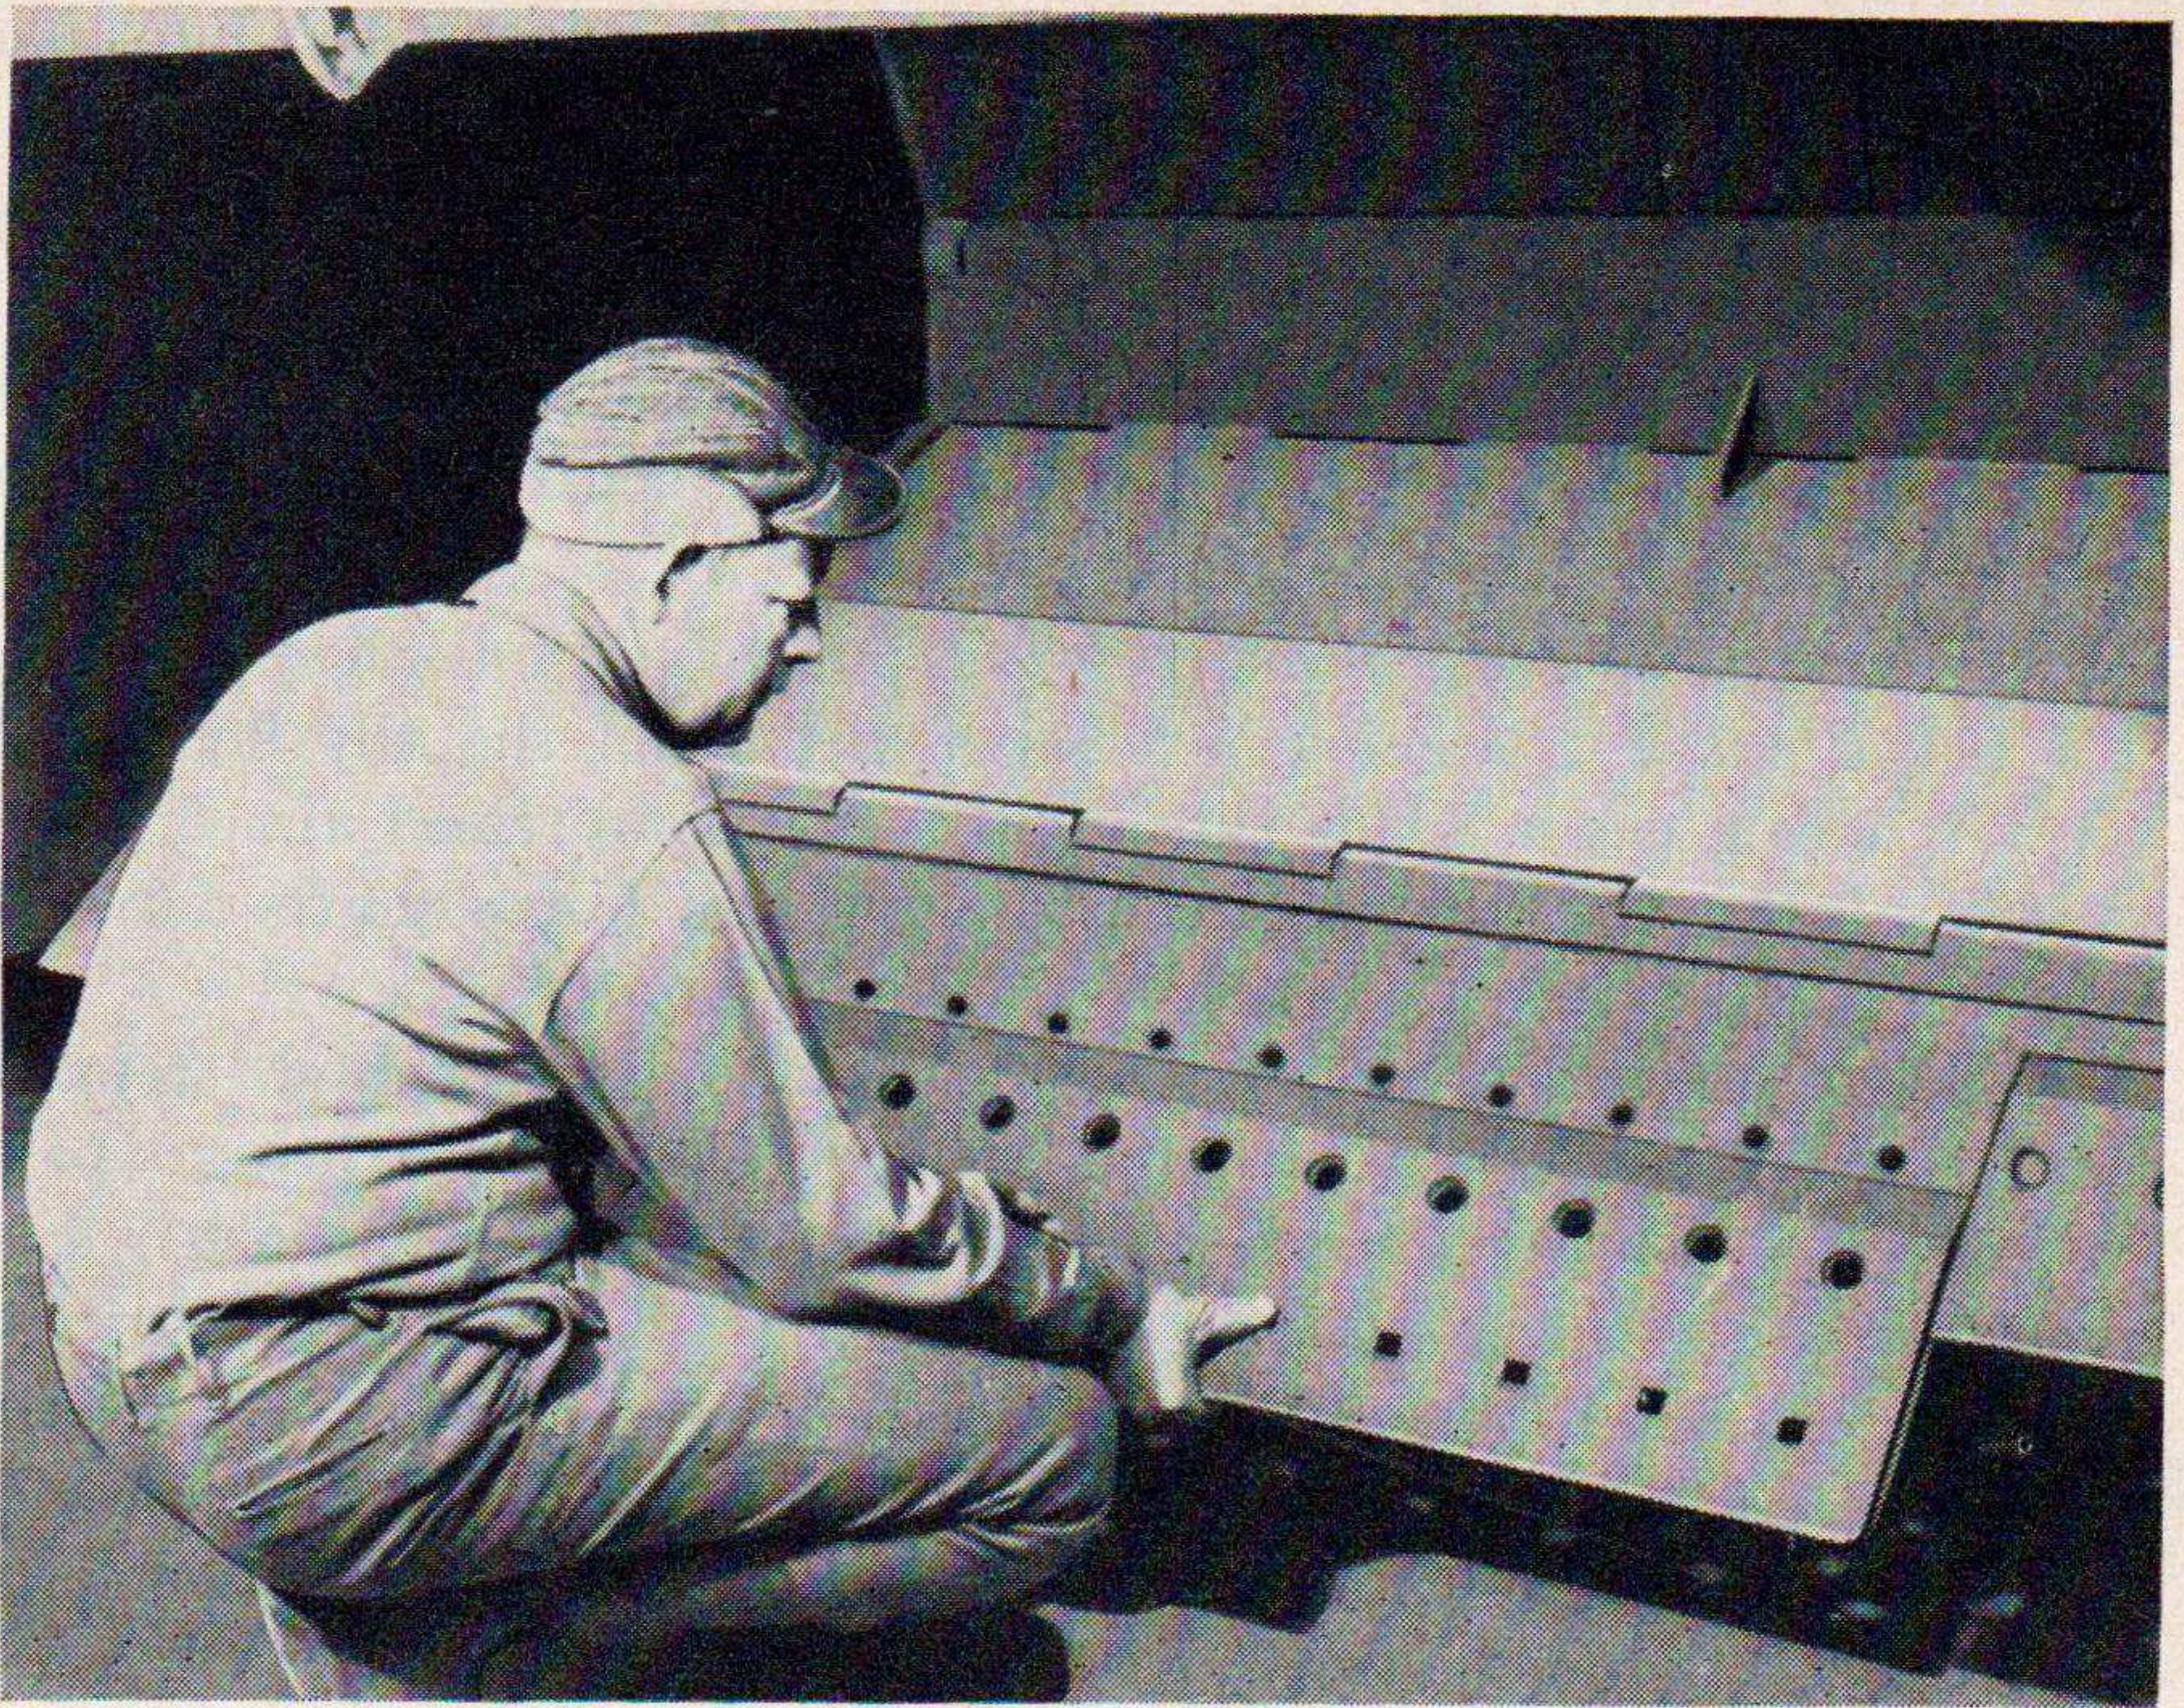

Figure 33. Reversing cutting blades.
- (1) *Cleaning.* Remove excessive dirt from the cutting blades and steam clean. Dry thoroughly with compressed air.
- (2) *Inspection.* Check the three-piece offset cutting blade for signs of wear. When the edges have worn down about 11½ inches, reverse the three sections (fig. 33). Failure to reverse the blades will cause excessive wear on the nose of the scraper bottom. If both edges of cutting blades are worn over 11½ inches, replace with new cutting blades.